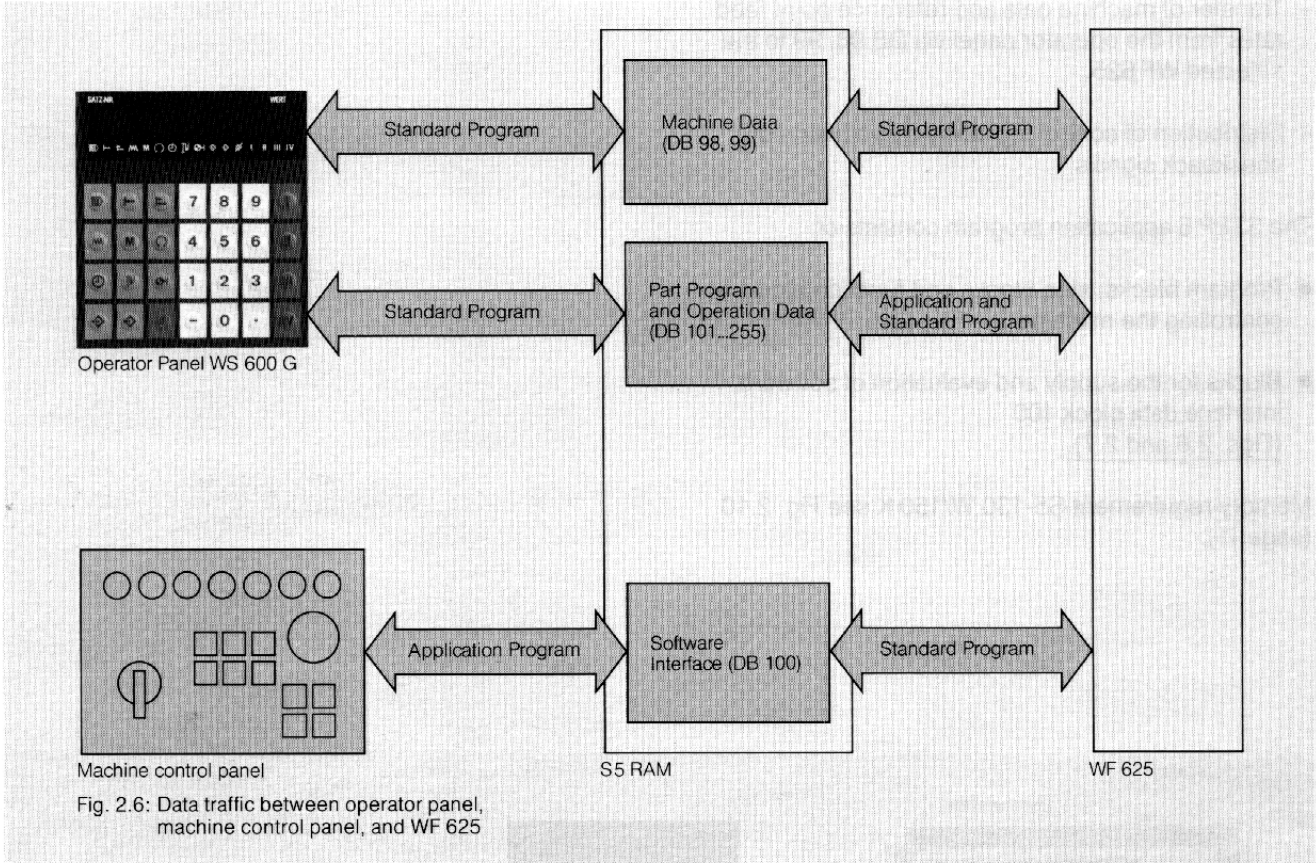

Fig. 2.6: Data traffic between operator panel, machine control panel, and WF 625
Data traffic between the WS 600 G operator panel, machine control panel and WF 625 positioning module is handled by the programmable controller with data blocks as buffer stores (Fig. 2.6).
- Blocks for the supply and evaluation of software interface data block 100 (Figs. 2.6 and 2.7).